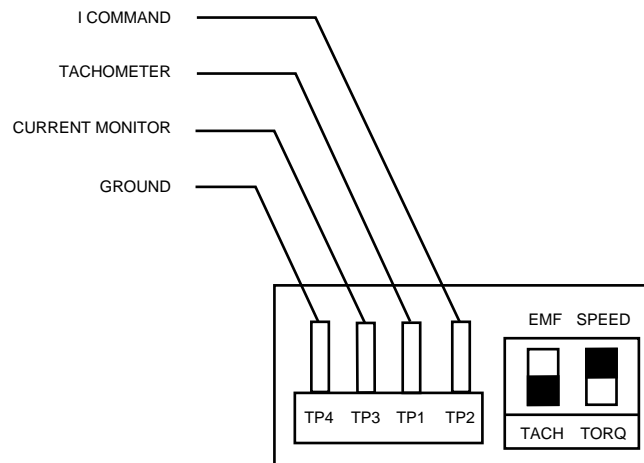

Figure 8-7 Test Point Identification
- d. Refer to Figure 8-7 and measure the voltage across test points TP4 (GROUND) and TP2 (I COMMAND).